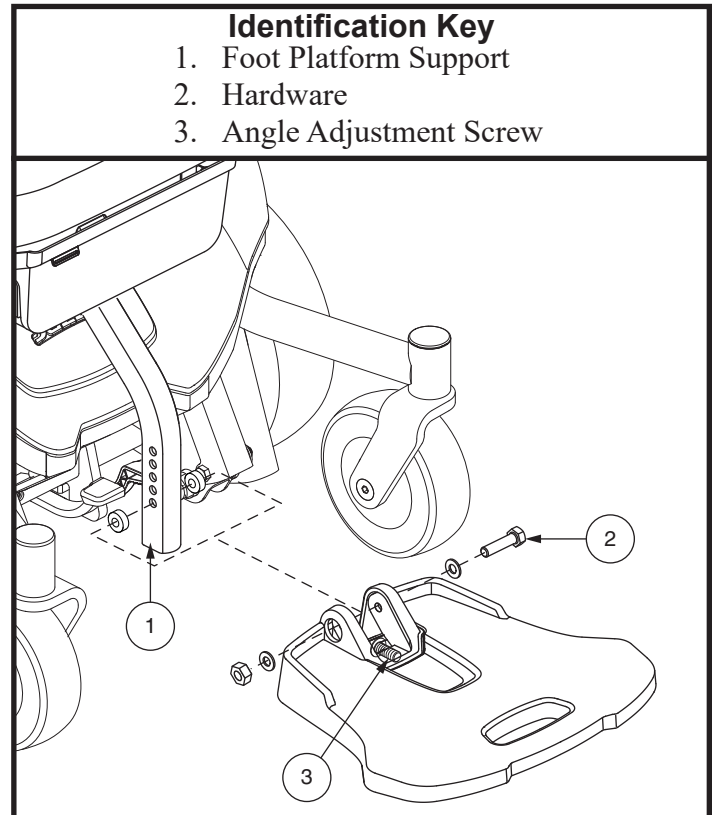

Figure 13. Foot Platform Adjustment
1. Remove the hardware from the foot platform support. **See figure 13.**
You can adjust the angle of the foot platform. **See figure 13.**